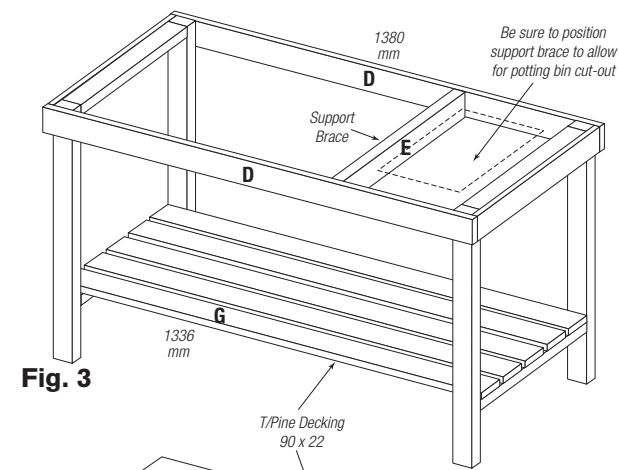

Fig. 3
With your end frames complete, next we'll add the front and back braces (D) as shown in (Fig. 3). First, cut two pieces of 90 x 22mm treated pine to 1380mm lengths. Stand your end frames up roughly in position, and with someone holding the brace for you at the other end, screw the front brace (D) into place so that it fits flush with side trim (C). Again, it's helpful to have someone hold the brace in position for you as you fix the other end in place. Make sure it's flush and square before screwing in 8-gauge screws. Next lay the unit down on the ground to add the back brace (D). Flush and square in position as you've done with the front brace. You'll notice your top frame has an overhang all-round to accommodate the work surface. You will then need to add the support brace (E) for the potting bin. Be sure to position the support brace so as not to interfere with the cut-out for the potting bin as shown (Fig. 3). That's it! You've completed step one.
Next we'll make the bottom shelf (G). Cut five 90 x 22mm treated pine decking boards to 1336mm lengths. Unlike the work surface, these boards don't overhang but fit flush within the bench frame as shown in (Fig 3). Allow a gap between each decking board so that they fill the area. When everything is parallel, screw or nail them in place. You've now got your work surface and bottom shelf in place.